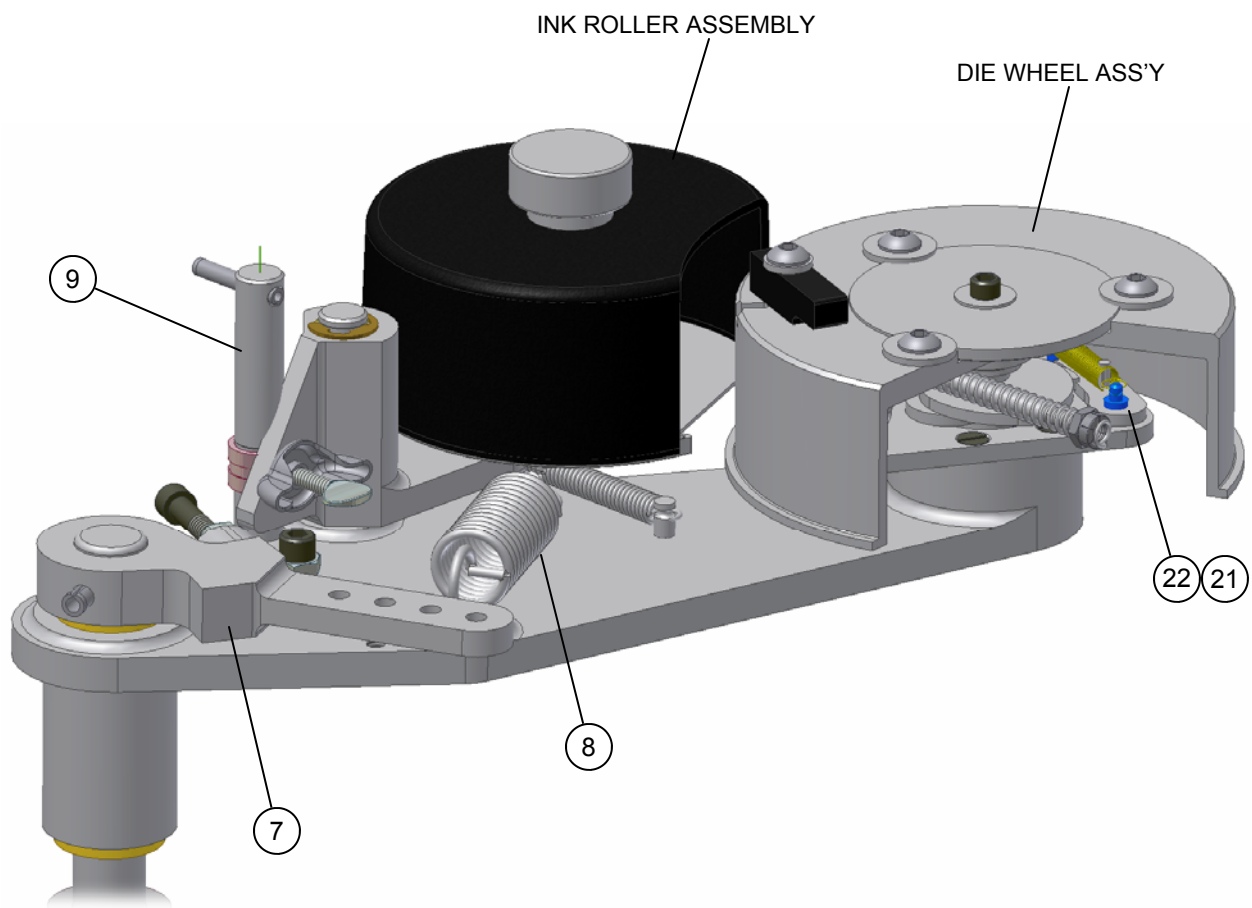

FIGURE 3A LEFT HAND (STANDARD FACTORY SET)
NOTE: The SL-QC Coder is presently set for left-hand mounting (see figure 3A.)
**TO CHANGE THE CONVEYOR MOUNTING FROM LEFT TO RIGHT (Figures 3A & 3B)**